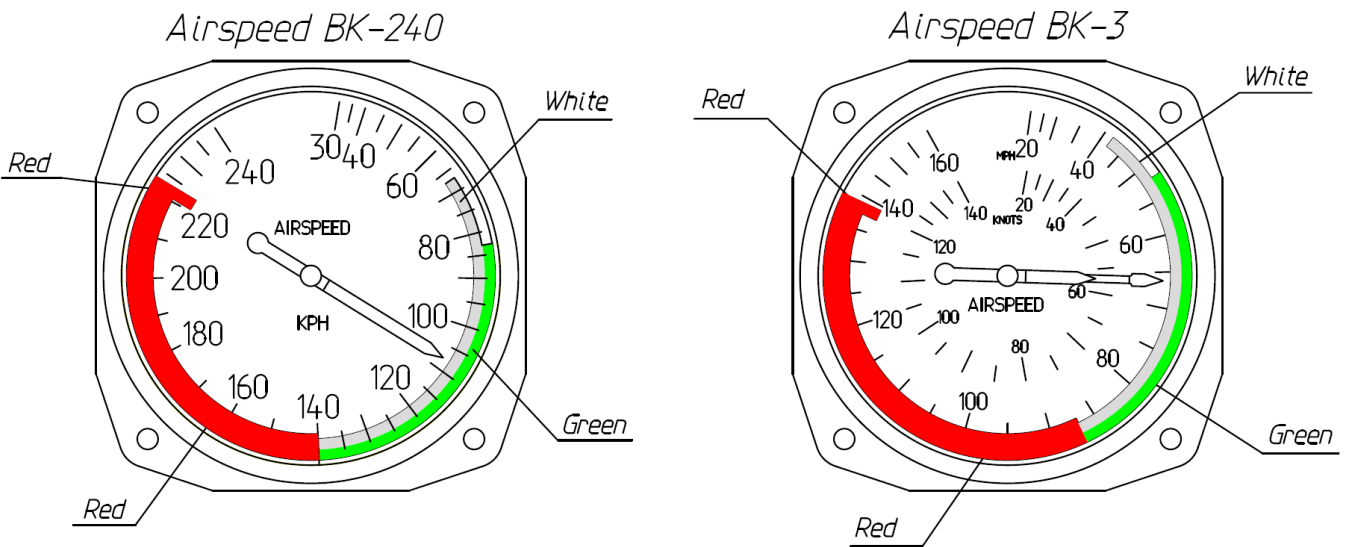

Fig. 1
2.1) Before replacing the windshield, put a temporary red speed limit sector  $V_{ne} = 140 \text{ km/h}$  (87 mph) to the airspeed indicator (see Fig. 1) and mark this temporary speed limitation in the relevant section of the POH (in any convenient way, for example, with a red pencil).